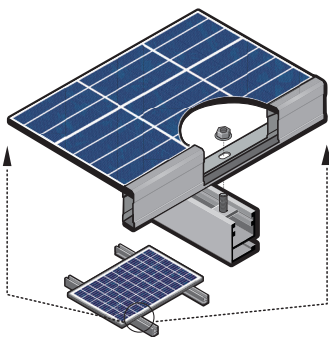

Figure 21. Mounting hole installation example
- All four mounting holes in the frame must be used (Figure 21).